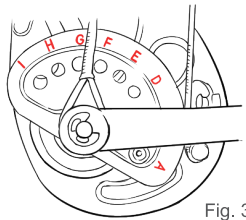
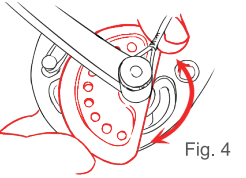
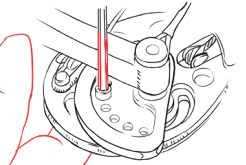

Fig. 3
Fig. 4
Fig. 5
3. Line the desired inner-cam module position hole labeled A-I (Fig. 3) with the hole on the outer cam (Fig. 4). Insert the module screw into the desired position hole and tighten. (Fig. 5)